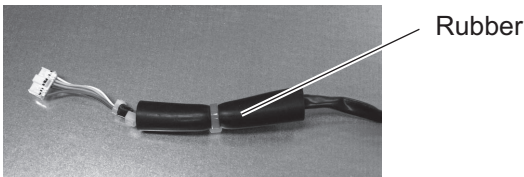

Fig. 9
9. Remove the rubber attached to the wiring of the fan motor (Fig. 9).